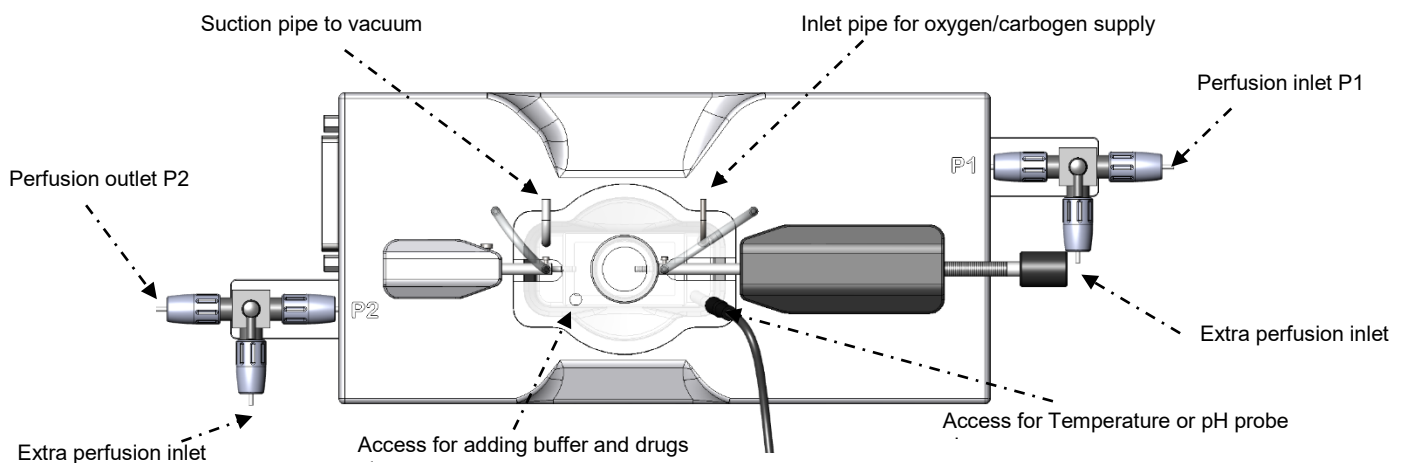

Figure 2.2 External connections for Pressure Myograph 110P-XL
- Connect the “perfusion/pressure inlet” at P1 on the Pressure Myograph (see Figure 2.2) to the P1 outlet on the cap of the Pressure Interface bottle (see Figure 2.3).
- Connect the “perfusion/pressure outlet” at P2 on the Pressure Myograph (see Figure 2.2) to the P2 inlet on the Pressure Interface (see Figure 2.3).